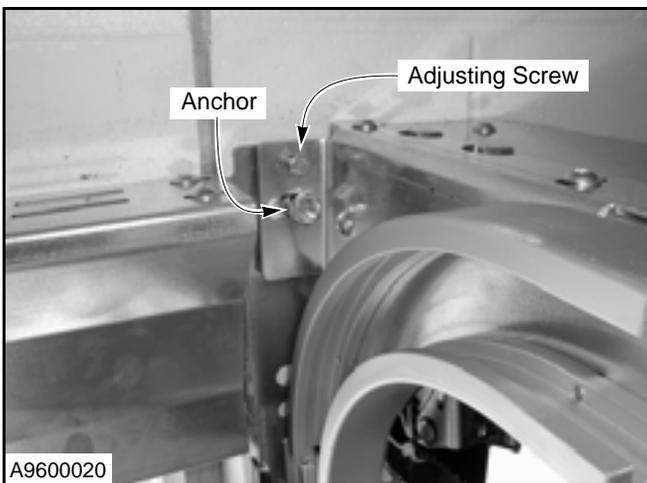

Figure 25
- Secure the console assemblies to the wall with the appropriate anchor. (See Figure 25.)